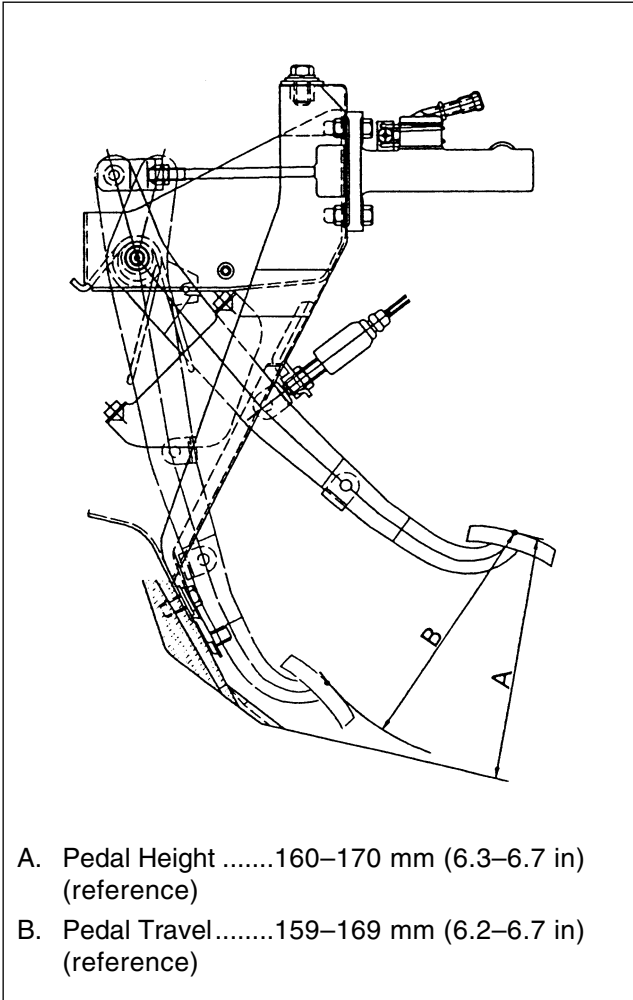

Figure 2. Clutch Pedal Height and Travel Adjustment
Adjust (Figures 2, 3 and 4)
2. Loosen the jam nut on the master cylinder push rod (figures 2 and 3).
**Measurement (Figure 2)**